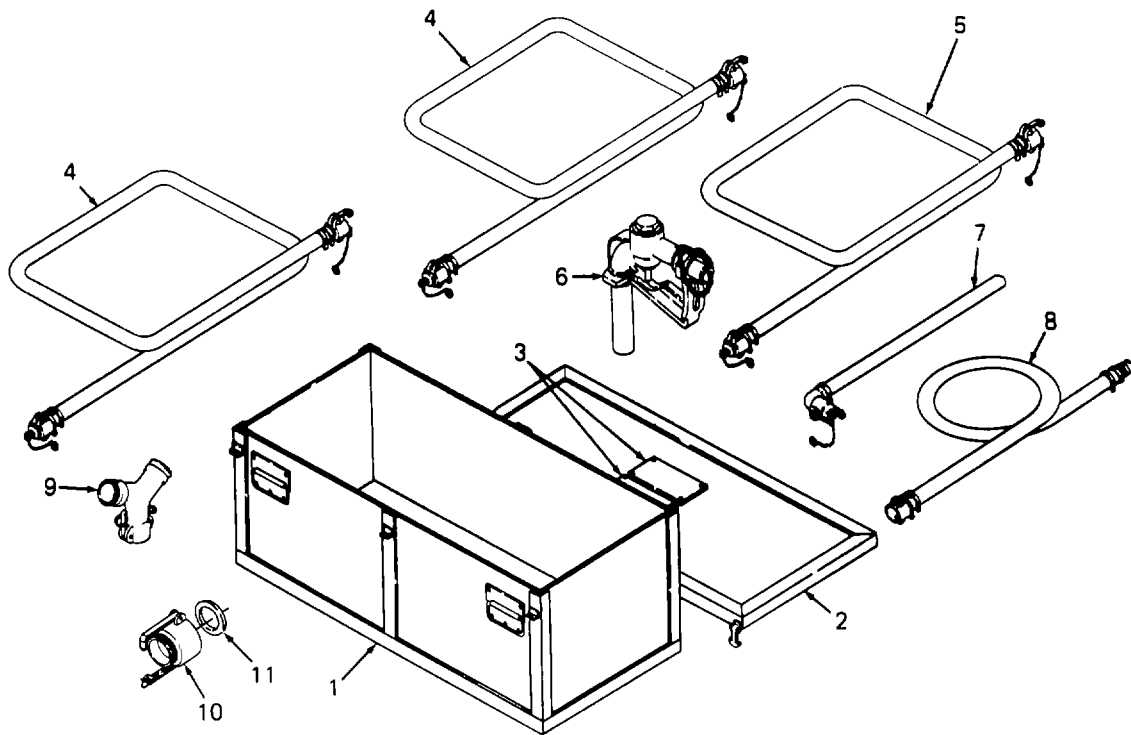

Figure 1-3. Storage Chest 1 and Related Pump Accessories
(4) Engine air intake baffle. This baffle combines with the enclosures to direct air to the air cleaner and the flywheel fan. Additionally, during cold weather starting procedures, this baffle encloses a space that is warmed by the engine intake heater.
(5) Intervehicle power cable electrical plug connector. This electrical connector is used during pump assembly operation in cold weather. It allows the pump assembly to be connected to the 24 volt DC electrical systems of Army vehicles. Pump assembly has two internal electric heaters that are used during cold weather starting of the pump assembly. The intake air heater warms air coming into the enclosure and the engine intake air. The engine oil is warmed by an immersion heater installed into the side of the engine facing the sound enclosure rear panel assembly. Controls and indicators for the two heaters are mounted on the sound enclosure front panel assembly. This electrical connector meets the requirements of MS52131 and has an attached dust cover to prevent damage and contamination when connector is not in use.
(6) Intake air heater. This 400 watt finned heater runs on 24 volts DC supplied from the intervehicle power cable electrical plug connector. The heater mounts on the pump frame.
(7) Immersion heater. This 75 watt immersion heater runs on 24 volts DC supplied from the intervehicle power cable electrical plug connector. The engine has accommodations for an oil dipstick to be mounted on either side of the engine. This heater threads into the unused oil dipstick location on the engine crankcase facing the sound enclosure rear panel assembly.
(8) Pump frame. The pump frame provides mounting points for the sound enclosures, pump and motor assembly, air intake heater, ground rod attachment, etc. It rigidly supports all components of the pump assembly and provides 4 folding handles to allow 4 soldiers to move the pump assembly as required.
(9) Pump suction connection. The connection to the suction side of the centrifugal pump is made through a 1.5 inch nominal ID female quick disconnect meeting the requirements of MS27024-9, Class 1. Installed in this fitting is an internal gasket meeting the requirements of MS27030-5. When pump assembly is not in use, a male quick disconnect dust plug, meeting the requirements of MS27029-9, Class 1, is installed to protect the centrifugal pump from contamination.
(10) Pump discharge connection. The connection to the discharge side of the centrifugal pump is made through a 1.5 inch nominal ID male quick disconnect. When pump assembly is not in use, a female quick disconnect dust cap, meeting the requirements of MS27028-9, Class 1, is installed to protect the centrifugal pump from contamination. During pumping unit set up, the pump discharge connection is also used to prime the pump with the liquid to be pumped. Installed in this female quick disconnect is an internal gasket meeting the requirements of MS27030-5.
(11) Diesel engine. Four-stroke, vertical cylinder, air-cooled diesel. Provides power necessary to drive the pump. Diesel engine is attached to the engine mounting plate. The engine mounting plate is attached to the pump frame using rubberized shock mounts to reduce noise and vibration during pump assembly operation. A grounding strap electrically connects the engine (and the attached centrifugal pump) to the frame. During pump assembly operation, a ground rod is attached to the frame to prevent static electricity buildup.
(12) Centrifugal pump. Continuous duty, self-priming, 50 GPM at 100 feet of head. This pump incorporates a check valve on its suction side. The centrifugal pump is mounted to the diesel engine and is keyed to the engine's output shaft.
(13) Spark arrestor. This baffle assembly suppresses engine exhaust sparks. The spark arrestor is mounted on the engine.
c. Storage Chest 1 and Related Pump Accessories (See Figure 1-3).
- (1) Storage Chest 1 Bottom (one each)
- (2) Storage Chest 1 Top (one each)
- (3) Storage Chest 1 Information Plate (one each)
- (4) Discharge Hose Assembly (two each)